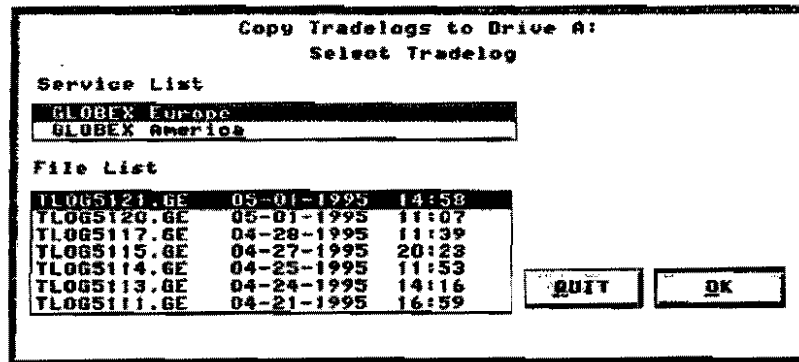

Figure 12.7 Copy Tradelog Dialog Box
1. Select **Tradelog** in the Copy menu to display the dialog box shown in Figure 12.7. The highest priority Service is selected, as is the most recent tradelog file.